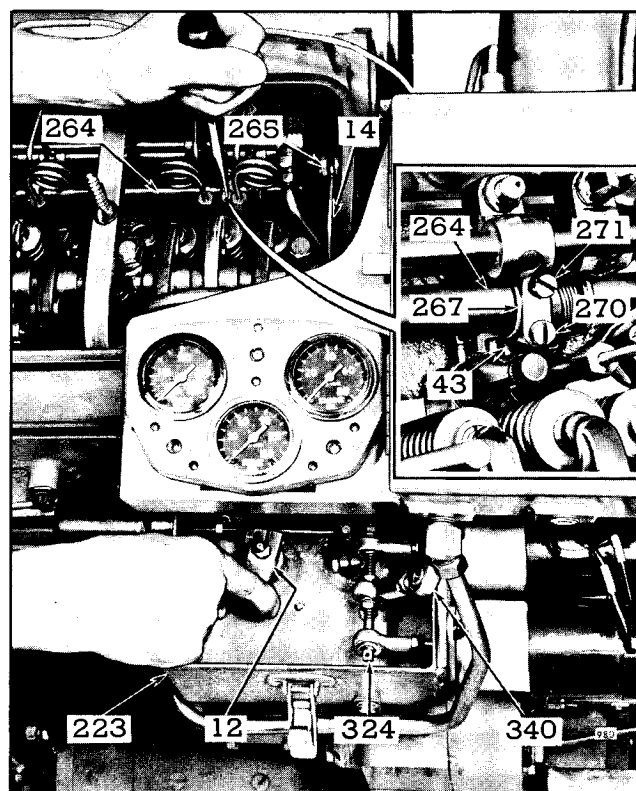

Fig. 2 - Positioning No. 6 Injector Rack Control Lever
3. Refer to Fig. 2 and loosen the inner and outer adjusting screws (270) and (271) on each injector rack control lever.
Adjust Number 6 injector rack control lever (267), Fig. 2, first to establish a guide for adjusting the remaining injector rack control levers.
1. Refer to Fig. 6 and remove bolt that secures spherical rod end bearing (340) to throttle control lever (12), then raise the turnbuckle and spherical rod end bearing up and rest it against the side of throttle control housing, as shown in Fig. 2.
3. While holding the throttle control lever (12) in the FULL FUEL position, turn inner adjusting screw (270) down on Number 6 injector rack control lever until the governor gap is just closed. A slight drag will be felt in the throttle control lever at this point.
4. Turn the outer adjusting screw (271) down until it bottoms lightly on the injector control tube. Then alternately tighten both the inner and outer adjusting screws until tight.